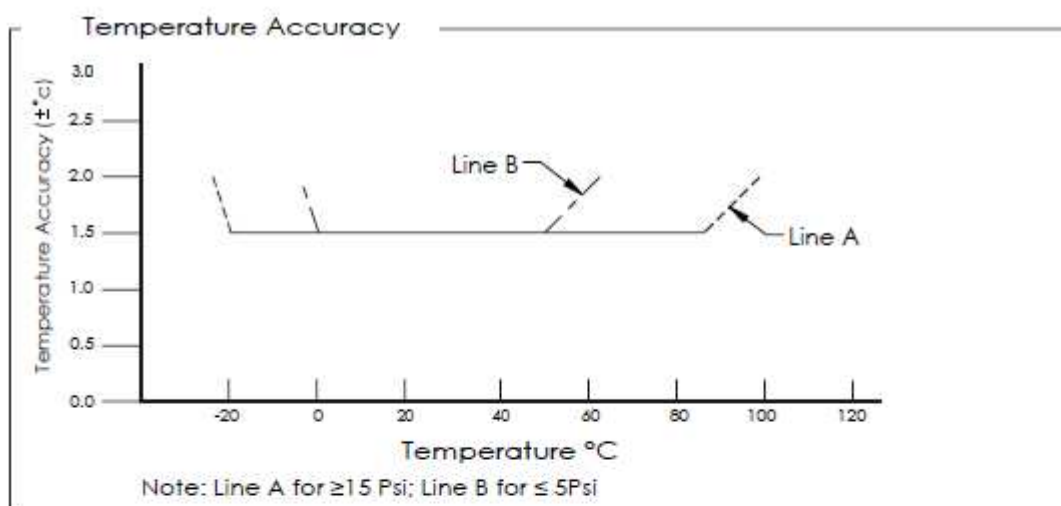

Fig 2
4. The deviation from a best fit straight line (BFSL) fitted to the output measured over the compensated temperature range. See Figure 2.